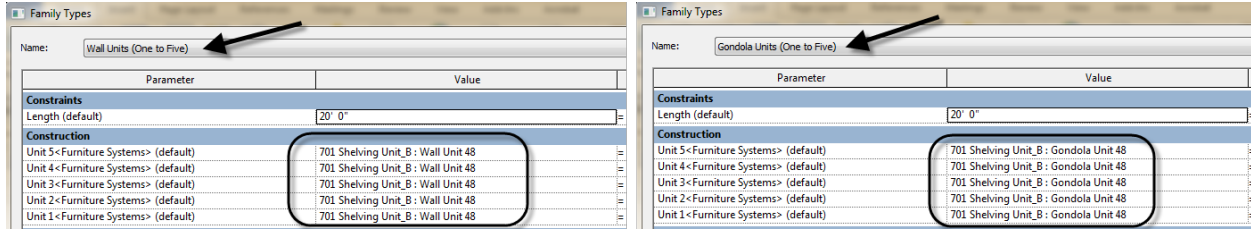

Figure 26—Create Family Types and assign default values for each Family Type parameter
- 10. Repeat for the other four units, dimensioning from Center Left/Right to right side of the unit each time and label each one Unit 2 through Unit 5 (see Figure 26).
13. Add two Family Types named: **Wall Units (One to Five)** and **Gondola Units (One to Five)**. Set the values of each of the “Unit” parameters to the 48" Wall size for the Wall type and the 48" Gondola size for the Gondola type (see Figure 26).